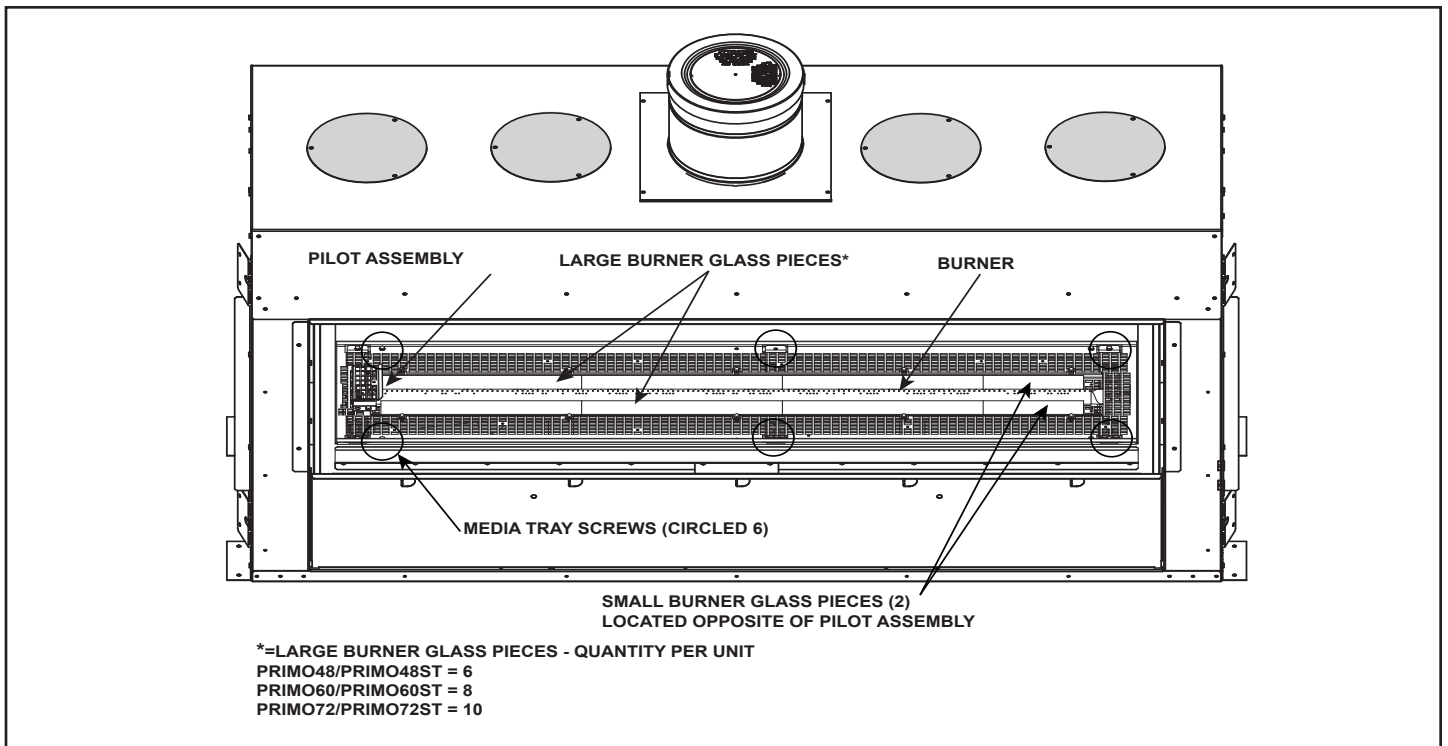

Figure 9.3. Base Pan with Burner, Pilot Cover and Burner Glass
9. Remove the burner glass. See Figure 9.3.
10. Remove the media tray. It is attached to the interior firebox bottom with screws. See Figure 9.3.